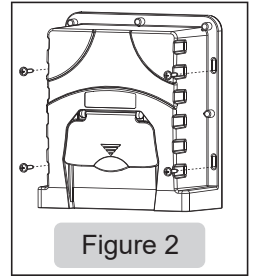

Figure 2
- 2) Find an appropriate location for the placement of the control unit. The control unit can be installed **vertically (recommended)** as shown in **Figure 2** or flatly. Its water inlet on the bottom should be higher than the maximum possible water level of the water reservoir but no more than 2 meters higher than the minimum water level of the water reservoir (referring to **Figure 1**: Recommended system installation schematic). The location should be able to avoid the control unit getting dipped into water when raining.